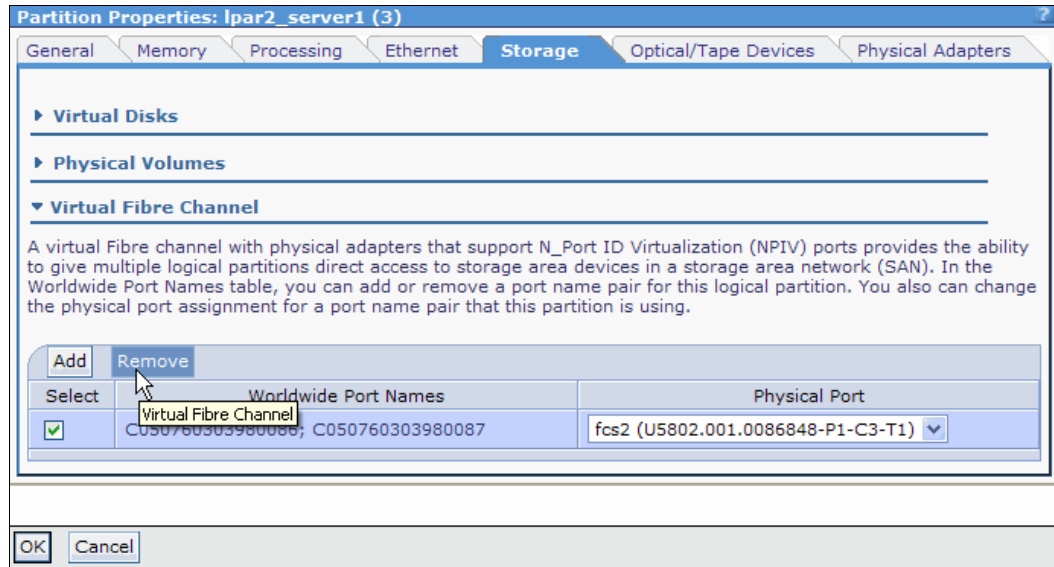

Figure 4-102 Removing a virtual Fibre Channel adapter
2. Select the **Storage** tab in the Partition Properties window, as shown in Figure 4-102.
3. Expand the **Virtual Fibre Channel** menu in the Storage tab. A list with available virtual Fibre Channel adapters is displayed, as shown in Figure 4-102. Select the check box of the virtual Fibre Channel adapter that you want to remove. Click **Remove**.